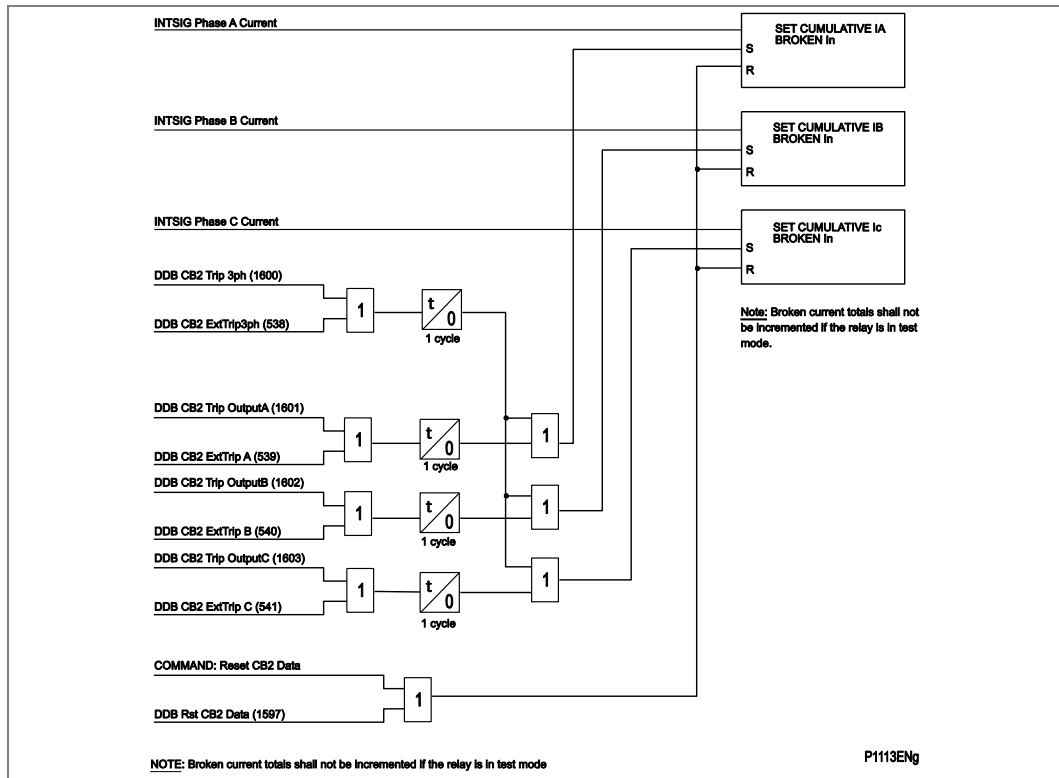

Figure 11 - CB2 condition monitoring – broken current
- Figure 11 - CB2 condition monitoring – broken current